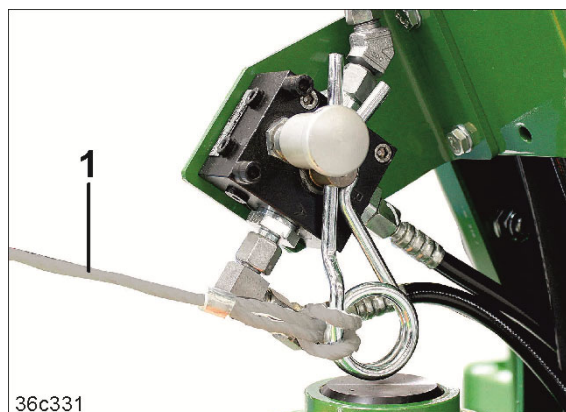

Fig. 127
6. Connect the break-away valve to the tractor via the cable (Fig. 127/1).